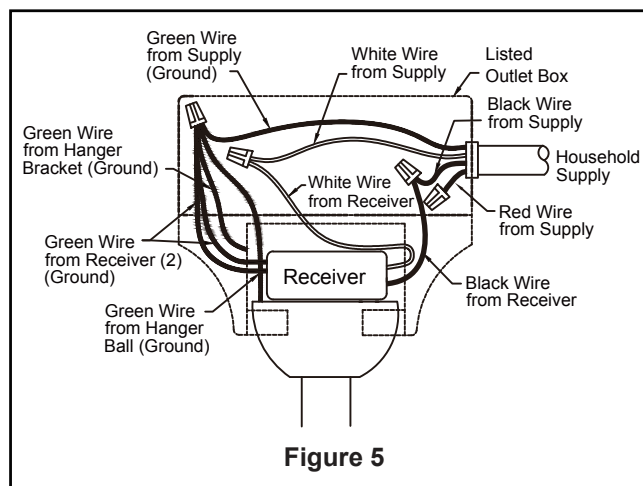

Figure 5
- ☐ 5. Route wires and safety cable through motor coupling cover, canopy screw cover and ceiling canopy. (Figure 5)
- ☐ 4. After connections have been made, put the white and green leads to one side and the black leads towards the other side, the connection should be turned upward and carefully push leads into the outlet box. The wires should be spread apart with the grounded conductor and the equipment-grounding conductor on one side of the outlet box and the ungrounded conductor on the other side. (Figure 5)
5. Secure the glass to light kit assembly by twisting in a clockwise direction. Twist the glass gradually until it snaps onto the light kit assembly. Do not over-tighten. (Figure 5)
☐ **7.** To set the remote code in the same positions as the receiver, use a small screwdriver or ball point pen (neither included) to slide dip switches firmly up or down. (Figure 5)